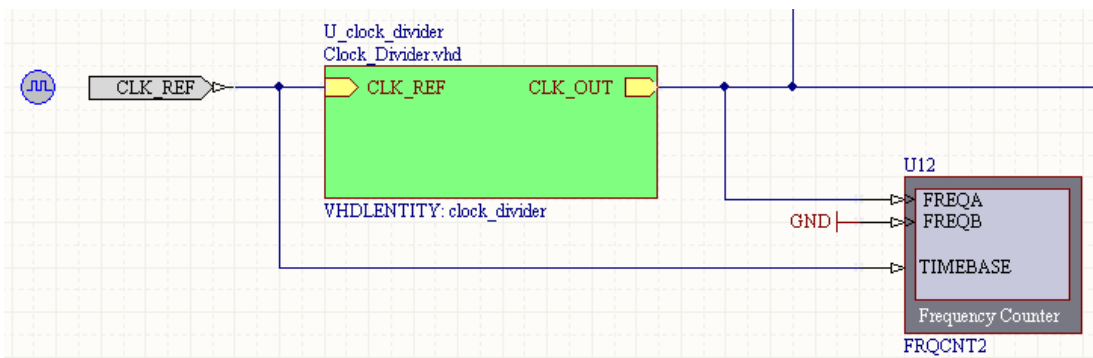

Figure 32. Frequency counter instrument placed and wired into the simple counter design.
4. Go ahead and wire up the instrument as shown in Figure 32. Place a GND power port, connected direct to the instrument's `FREQB` pin, as we are not using this channel.